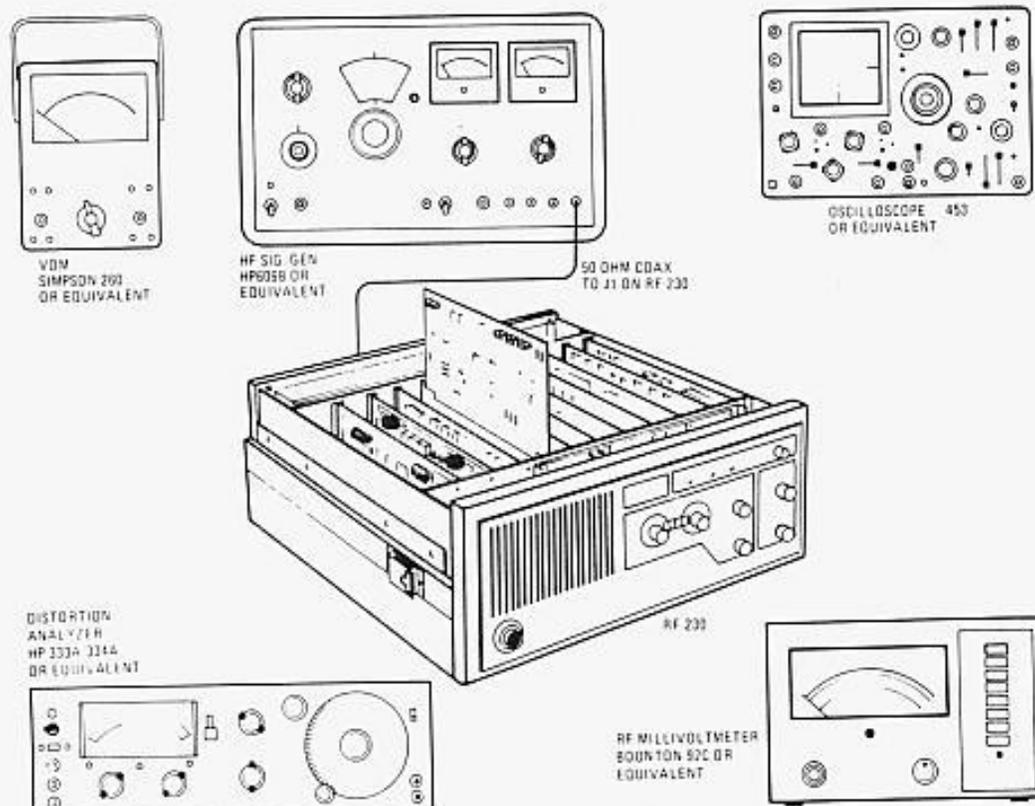

Figure 2. 1A1A4 Test/Setup
Figure 2 demonstrates test equipment typically required to make all 1A1A4 maintenance or setup adjustments.
a. Assemble required test equipment and set-up for test as shown in figure 2, with RF Signal Generator connected to RF-230 input, and measuring equipment available for use as directed.